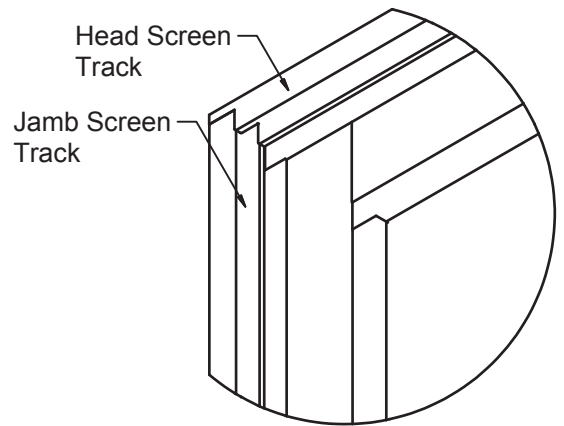

Figure 16.
**Step 5. (Screen Track Installation Cont.)** Repeat steps 3 and 4 for each jamb screen track. Verify that each jamb corner mates properly with the head and sill screen tracks before fastening to the rough opening (See Figure 16).